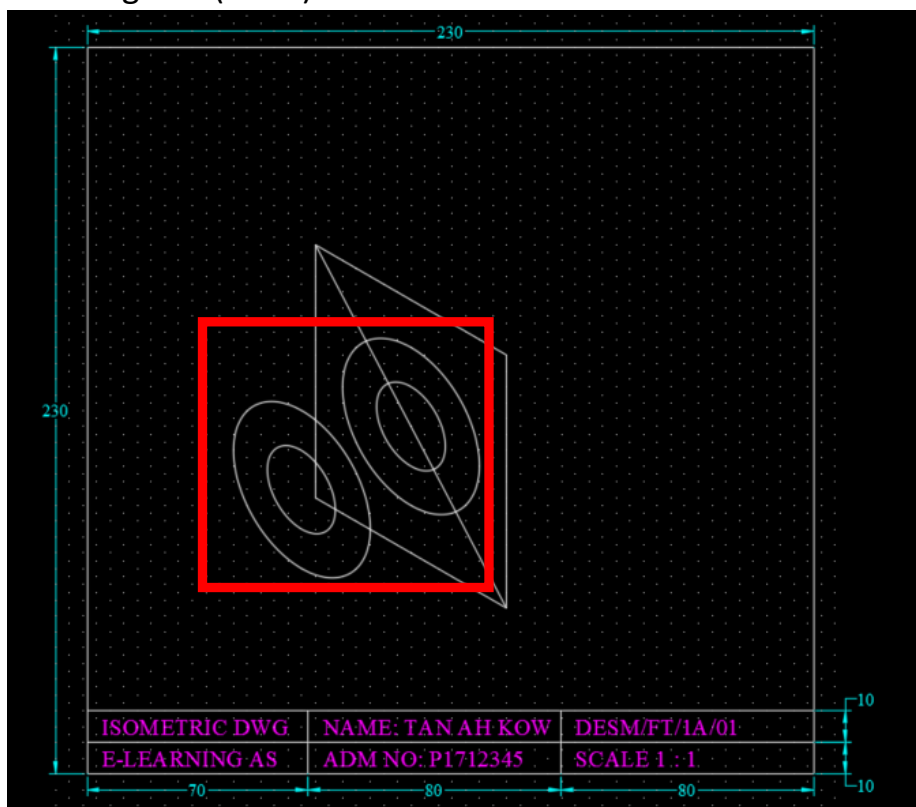

FIG 6
8. Draw two Isometric circles with diameters 50mm and 25mm with the centre at the midpoint of diagonal line. Next, copy the two isometric circles 40mm away at direction -150 degrees (FIG 6).
Instructions for drawing the 2 sets of isometric circles in FIG 6 as shown below: